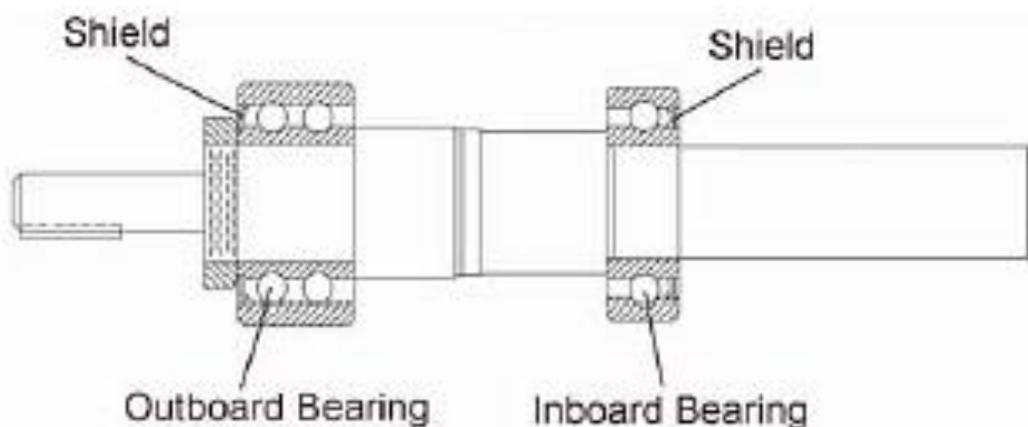

Figure V-2: Shielded Bearing Arrangement
2. Mounting of bearings on shafts must be done in a clean environment. Bearing and power end life can be drastically reduced if even very small foreign particles work their way into the bearings. Install the inboard bearing (#120) on the shaft (#105). The inboard bearing must be positioned against the shaft shoulder. If the power end is equipped with single shield re-greaseable bearings, the shields should be oriented as shown in Figure V-2.